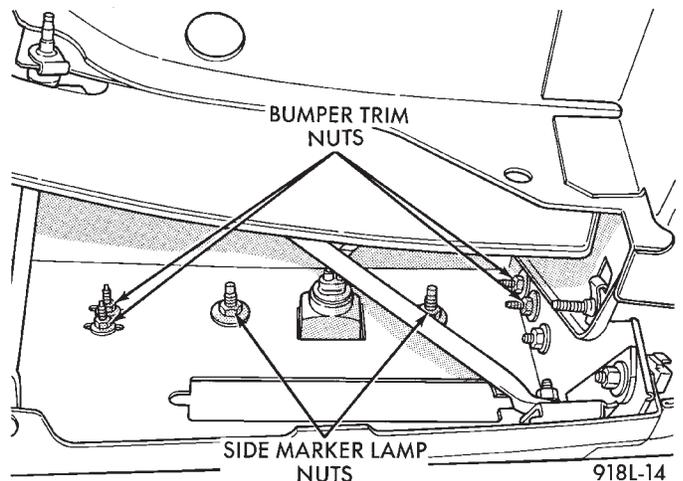
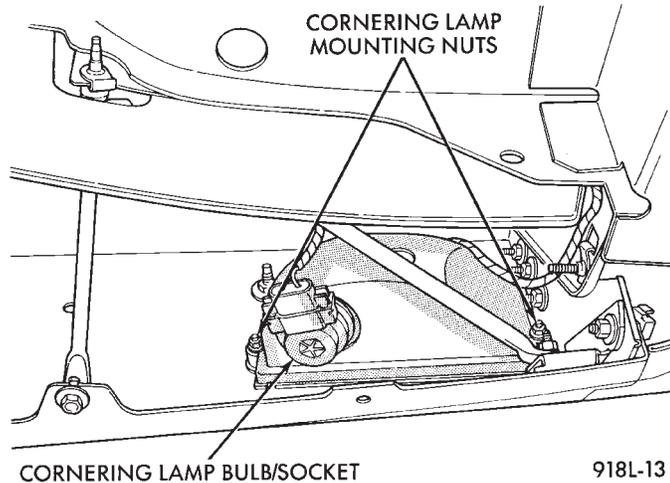

Fig. 7 Bumper Trim Moulding Nuts — AY/C-P-Body
Fig. 8 Cornering Lamp—AY/C-P-Body
- (1) Raise vehicle.
- (2) Reach over the top of cornering lamp (Fig. 7) and remove bulb/socket (Fig. 8).
REMOVAL (FIG. 7)
REMOVAL (FIG. 8)